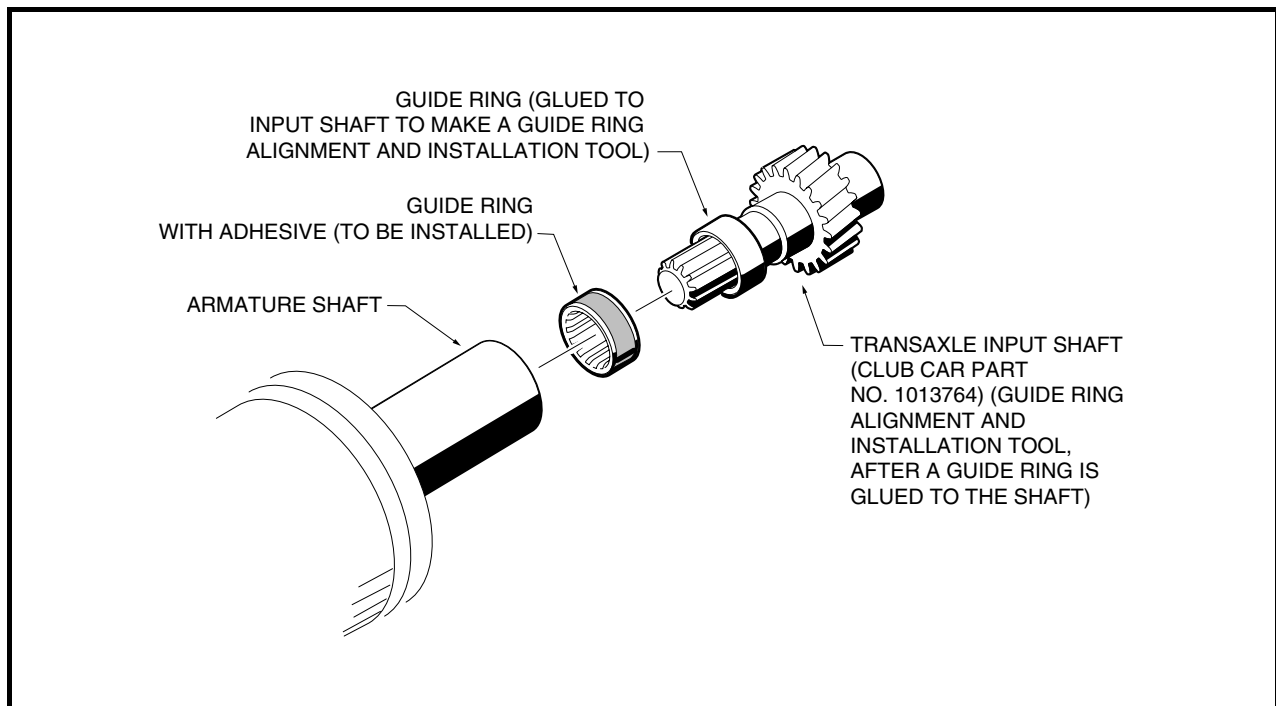

Figure 15-11 Guide Ring
1. Insert the alignment and installation tool (**Figure 15-11, Page 15-9**) into the output end of the motor shaft and into the guide ring, stopping the tool before it reaches the armature splines. Turn the alignment tool in the shaft. If guide ring moves and armature does not move, the guide ring must be replaced (**Figure 15-11, Page 15-9**).
2. To fabricate a guide ring installation tool, glue a guide ring (Club Car Part No. 101789101) onto an input shaft (Club Car Part No. 1013764) and allow the glue to set (**Figure 15-11, Page 15-9**).
1. Coat the outside surface of the new guide ring with a thin film of guide ring adhesive (Club Car Part No. 101813201), then slide the guide ring onto the guide ring installation tool (**Figure 15-11, Page 15-9**) next to the guide ring already in place. Mating the splines of the input shaft with the splines in the armature shaft, insert the input shaft into the armature shaft until the new guide ring is seated against the end of the armature splines. Remove the guide ring installation tool from the armature. Make sure the guide ring remains seated.